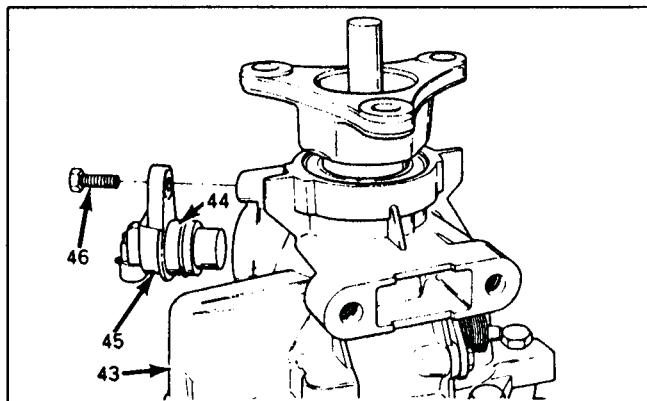

Figure 21
2. Remove the 10mm bolt retaining the output speed sensor (See Figure 21).
3. Remove the output speed sensor using a rotating motion while pulling out. (See Figure 21).